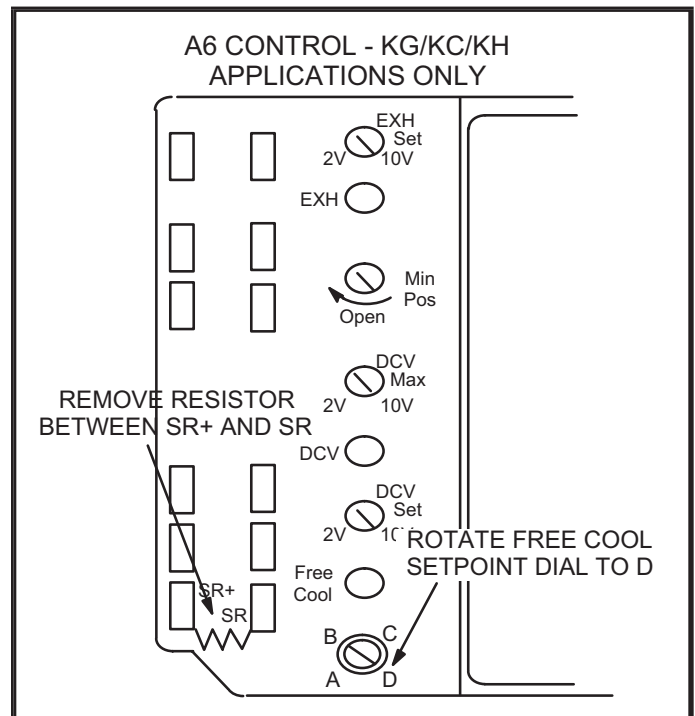

FIGURE 7
- 2 - Remove resistor between A6 enthalpy control terminals SR+ and SR. See FIGURE 7.
- 4 - Turn A6 control setpoint dial completely clockwise to position "D". See FIGURE 7.